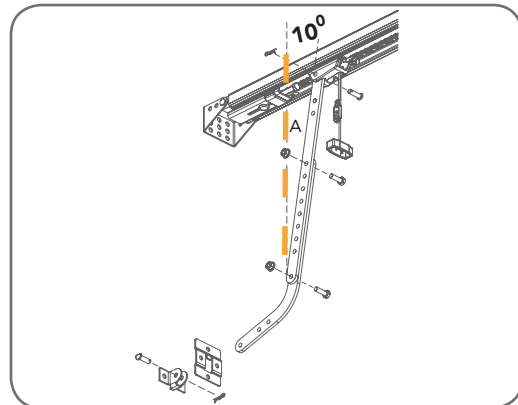

fig 26
- Connect the assembled arm to the bracket and the disengaged trolley with clevis and snap pins. The angle "A" must be more than 10° (**Fig. 26**).